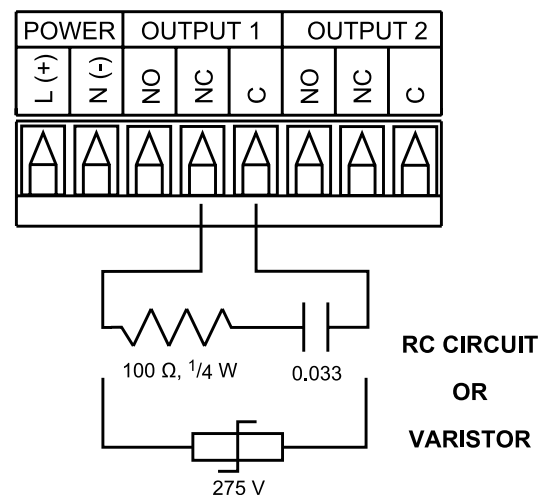

Figure 2.13 Snubber Circuits Wiring Hookup
Note If you have an inductive load connected between Common (C) and Normally Closed (NC) contacts of the mechanical relays and you want to protect them from the rush current during the switching period, you have to connect an external snubber circuit between Common (C) and Normally Closed (NC) contacts as indicated in Figure 2.13.